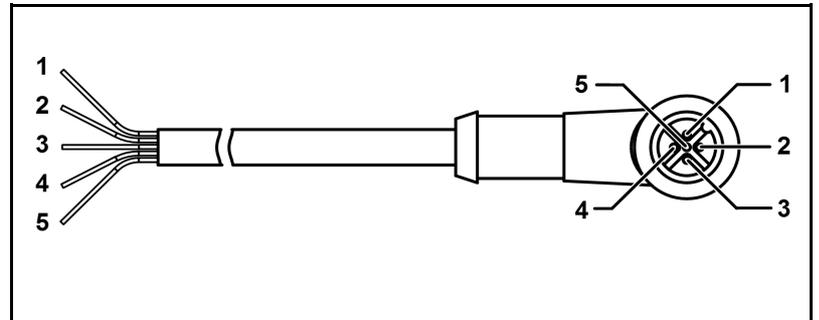

Fig. 5: RC cable pins
1. Fit suitable connector for control unit that is being used to external actuation cable (RC cable). For lead assignments see Chapter 4.6 Tab. 12 and Fig. 5.